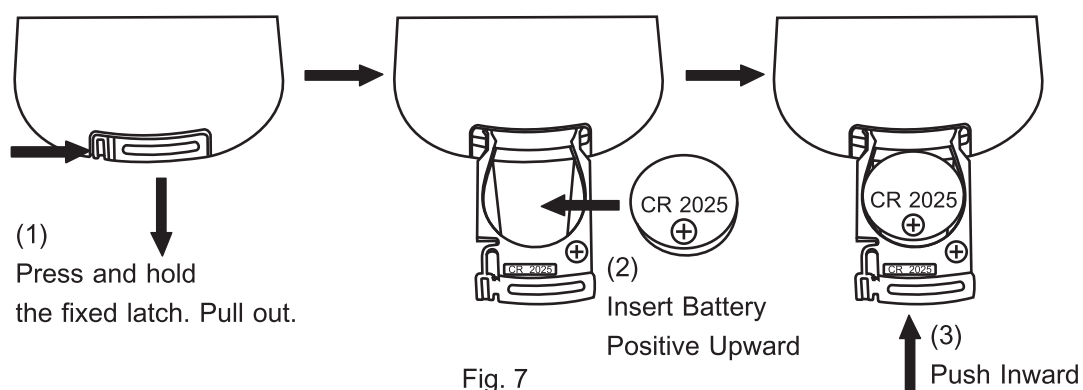

Fig. 7
- (A) MUTE \odot : Press to mute, press again to un-mute.
- (B) Pinpoint Repeat A \rightarrow B \odot : During playback, press A \rightarrow B to pinpoint A. Press again to pinpoint B and start to pinpoint repeat playing between A and B. Press it again to cancel the function.
- (C) DEL Ⓢ : Delete button. Select the track to be deleted during playback. Press the DEL button, the LCD shows DEL FILE. Press once to delete this track. The deleted track can't be recovered.
- (D) RAN ENTER Ⓢ : Play random tracks. Press RAN ENTER to play randomly. Or use the REV or F.WD on the control panel or remote controller to play randomly.
- (E) Numeric selection for tracks:
- (1) For a lot of tracks, use the remote control number keys to directly go to the specified track. Here are some common examples.
- (2) $\text{Ⓢ} \rightarrow \text{Ⓢ} \rightarrow \text{Ⓢ}$: Press for track #134
- (3) $\text{Ⓢ} \rightarrow \text{Ⓢ}$: Press and wait for 3 seconds for track #68
- (F) Other functions refer to 7. Media Player Control Panel.
10. Insert Battery to Remote Control. Fig. 7:
- (A) Press down on the left small fixed latch and hold the right side of the battery seat groove gently to pull out the battery holder.
- (B) Insert the new battery with the positive upward and gently push the battery holder inward to position it.
- (C) Note: When using the remote control, the best reception distance is 3 meters from the remote control to the receiving hole on the control panel effective distance is 5 meters. The battery of the remote control is a CR2025 3V battery.